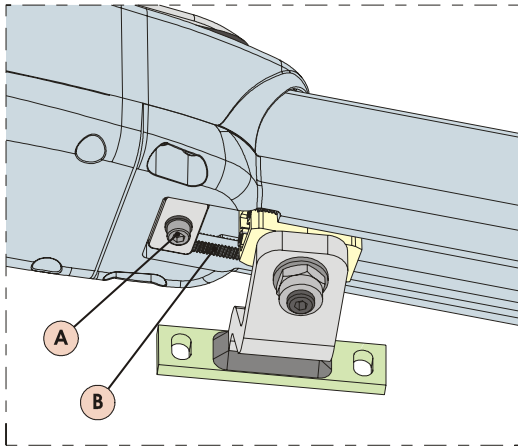

Fig. 17
- 3) Loosen the fastening screw, Fig.17 ref.A. Do not remove the screw.
**IMPORTANT:** The mechanical stop works coupled to a toothed sector, Fig. 17 ref. B. If there are any troubles during the movement, make sure that the coupling is free. **DO NOT FORCE.**